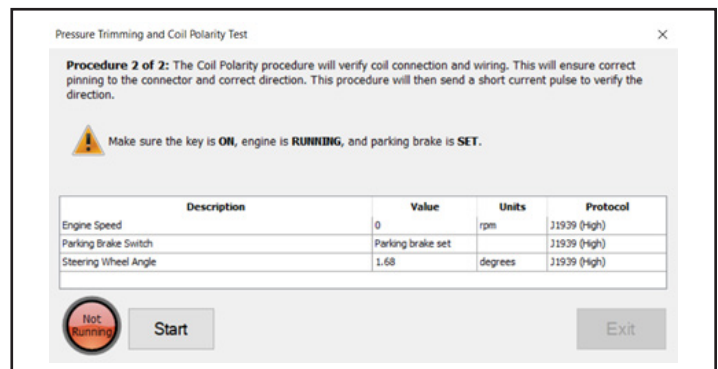

Figure 2 – Coil Polarity Procedure
3. When finished, press the *Next* icon to proceed. Test dialog for procedure two (2) of two (2) will be displayed. See *Figure 2*.